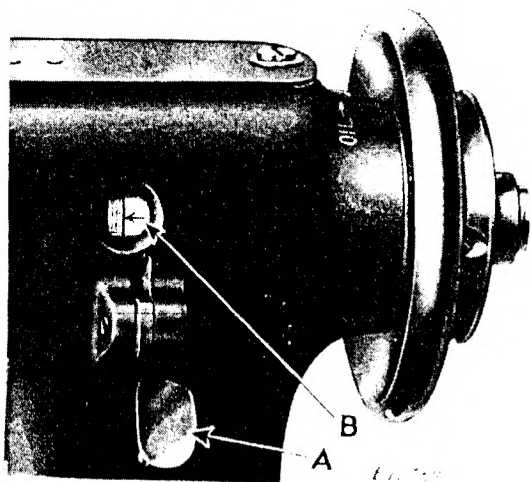

Fig. 17. Stitch Regulator
Press the stitch regulator lever (A, Fig. 17) and at the same time turn the machine pulley over toward you until the lever (A)
engages the notch in the stitch regulator flange (B, Fig. 17). Continue to hold the lever (A) in the notch in the flange (B) and at the same time turn the machine pulley backward or forward, as required, until the number of the desired length of stitch is opposite the arrow, as shown in Fig. 17, then release the lever (A).